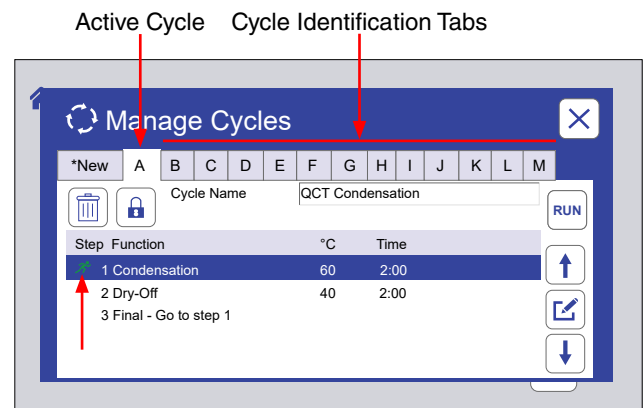

Figure 8.7.1b: Manage Cycles screen. The active cycle is displayed. The currently running step is indicated. Touch any ID tab to display that cycle.
- The Manage Cycles screen is displayed showing the active test cycle and the steps in the cycle, with the currently executing step indicated (Figure 8.7.1b).
- Each cycle is stored with an alphanumeric (A through M) identification tab (Figure 8.7.1b).